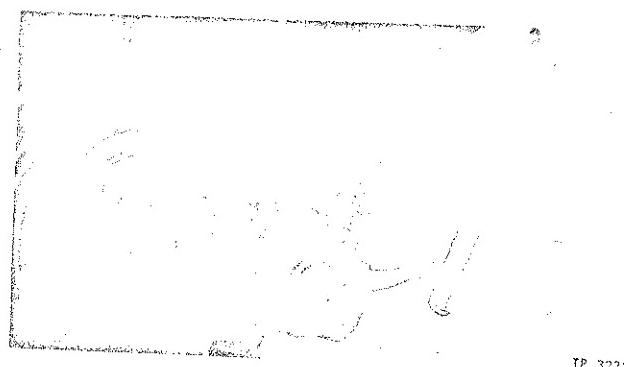

Figure 5—Typical Pinion Bearing Adjustment Test
correct spacer is used. Bearing adjustment may be checked with torque wrench (Fig. 5) and reading obtained, should be 6 to 8 inch pounds torque. If torque wrench reading exceeds limits, install thicker spacer (28). When reading is below limits, install thinner spacer (28).
6. Install bearing (22) on inner end of drive pinion (25) and lock in place with new retainer (23) and bolt (24).
7. After bearing adjustment is completed; remove nut, washer and pipe or tubing from drive pinion (25); then install oil seal (32) in pinion cage (29).
8. Make certain that splines on pinion (25) and in flange (33) are cleaned; then install flange (33) and dust slinger on drive pinion (25). Attach flange with nut (34). Tighten nut (34) with torque wrench 700 to 900 foot pounds torque. Align cotter pin hole in drive pinion (25) with slots in nut (34) and install new cotter pin full size of hole.
9. Dip end of pinion with roller bearing (22) in differential lubricant. Install cage assembly (29) in differential carrier (40) using same number and thickness of shims (39) between cage flange and carrier as were removed. Be certain oil holes in cage assembly (29) and shims (39), index with those in carrier (40) to assure proper lubrication. Install nuts (37), and new lock washers (38) on studs (36). Tighten nuts firmly.